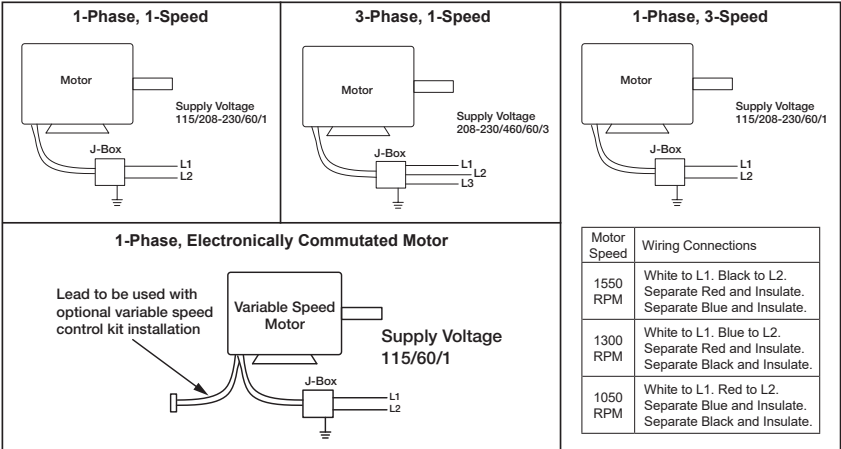

Figure 2
9. Connect power supply wiring to the motor as indicating on the motor nameplate, refer to Figure 2 for connection wiring diagram.